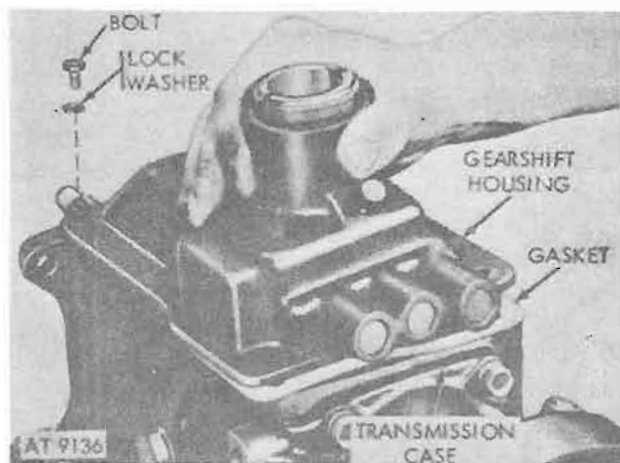

Figure 8-3. Gearshift housing and gasket.
c. Remove six bolts and lockwashers securing gearshift housing to transmission case. Remove gearshift housing and gasket from transmission case (fig. 8-3).